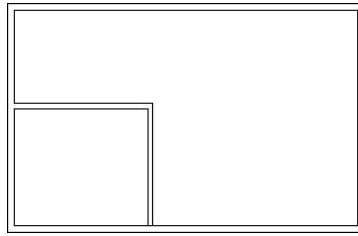

FIGURE 4.16: The result of the Zoom Previous command
6. Return to a view of the whole drawing by typing `z↵` and then `p↵`. This is the Zoom command's Previous option, which restores the view that was active before the last use of the Zoom command (see Figure 4.16).